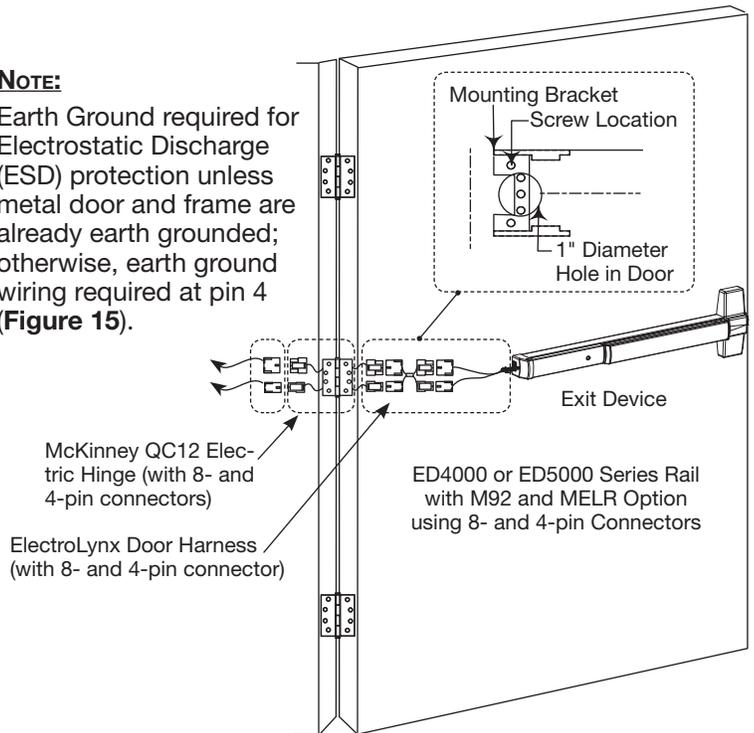

Figure 15 – Timer Mode Installation
- c. Connect the ElectroLynx harness in the door (**Figure 15**):
- ii. Feed the 3" harness through the 1" hole in the door and secure the pushbar to the door using the mounting bracket and two (2) supplied screws.
Earth Ground required for Electrostatic Discharge (ESD) protection unless metal door and frame are already earth grounded; otherwise, earth ground wiring required at pin 4 (**Figure 15**).